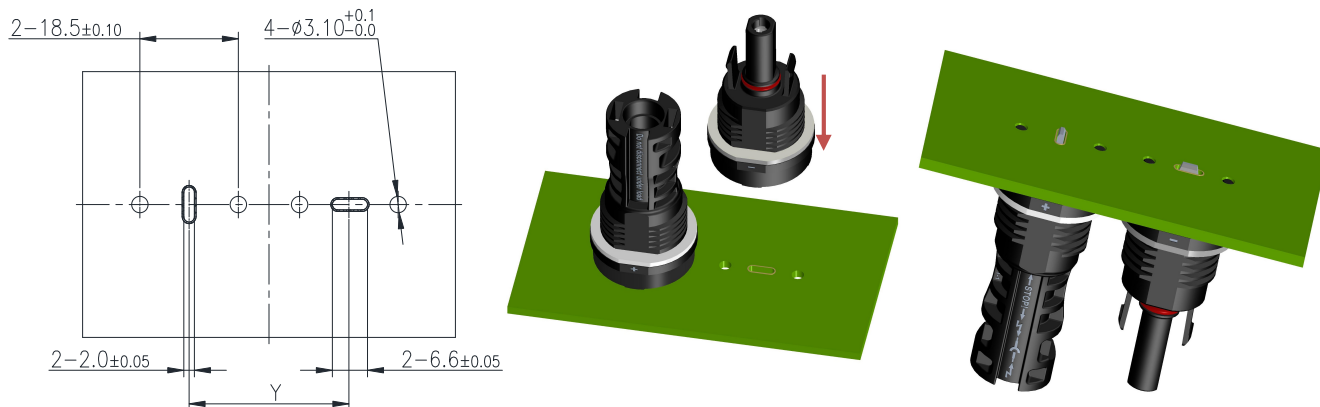

Figure 1
- ✧ PCB 钻孔的建议尺寸及安装如图 1，所有钻孔边缘的毛刺需要清除。建议无论水平或垂直结构，间距值（Y）至少要有 30mm，建议 PCB 板厚 $2.5 \pm 0.1\text{mm}$ ；由焊接工艺将插座固定在 PCB 板孔内。
Drill the panel wall. Recommended bore dimension see fig.1, all burrs must be removed from the edges of all bores. For both horizontal and vertical mounting, a spacing (Y) of at least 30mm is recommended; the socket is fixed in the holes of the PCB board by the welding process.